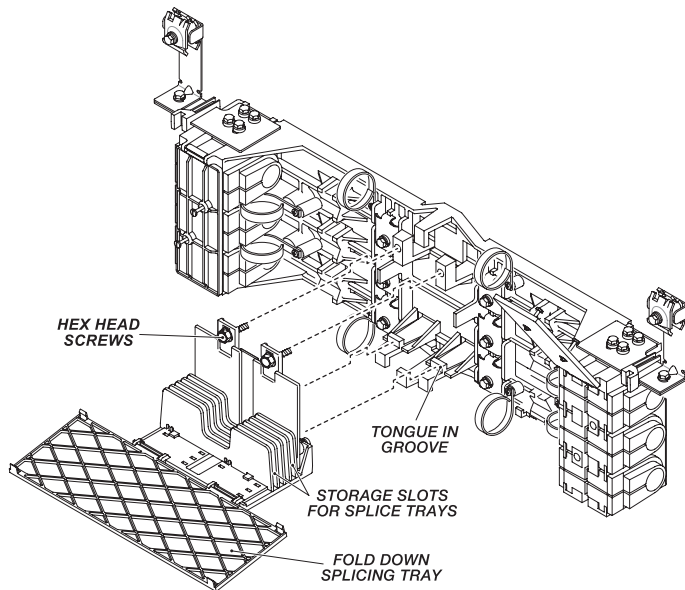

FIGURE 13—Attaching Stacker Assembly to Frame.
9.02 The stacker assembly attaches to the frame by a tongue and groove feature and two (2) hex-head screws. Refer to Figure 13.
NOTE: Stacker assembly can be removed from the frame as indicated in Figure 13. However, it does not have to be removed to access the individual fiber bundles or to route new cables into the closure.